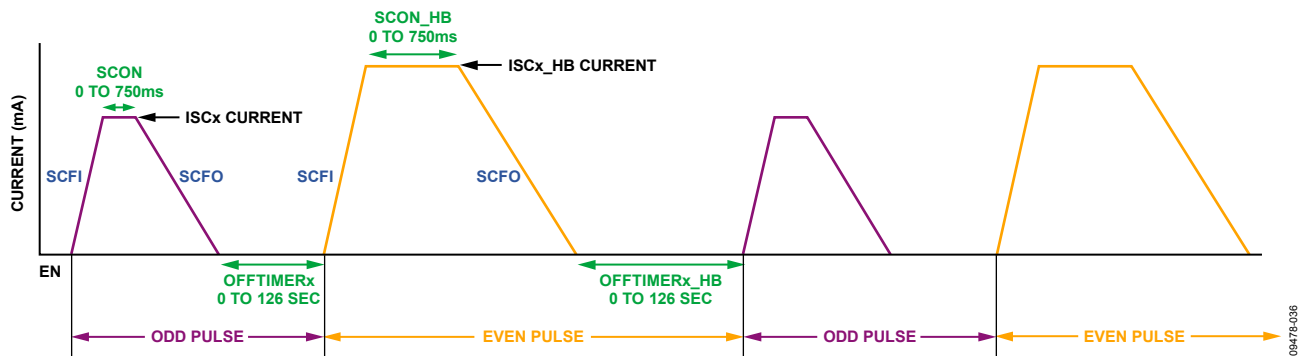

Figure 35. Customizable Heartbeat Pulse
- Heartbeat mode: This mode allows a double pulse to be issued in a fully automated and customizable loop. Register 0x2C through Register 0x35 control the heartbeat effect. Up to four channels (D6 to D9) can be configured to operate in the heartbeat mode. The approximate shape of the heartbeat is shown in Figure 35: